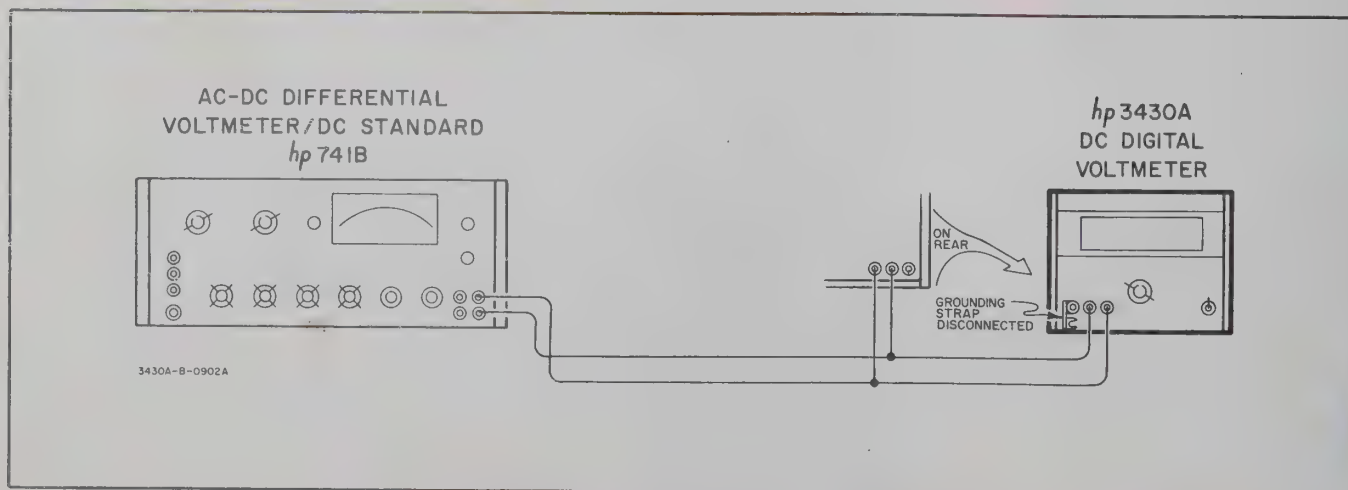

Figure 5-6. Ratio Accuracy Check
- b. Connect dc standard voltage to the 3430A front panel INPUT and rear panel REF INPUT. (See Figure 5-6.) This places the rear panel REF INPUT and front panel INPUT voltages in parallel, so the input ratio is 1.000.